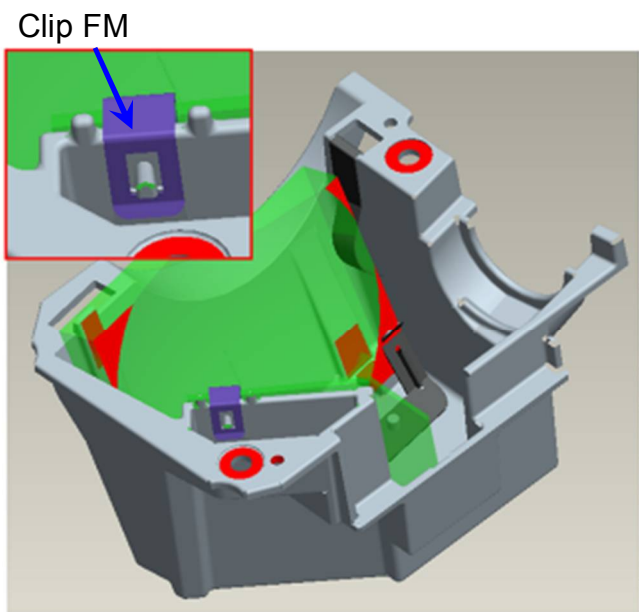

Fig. 2-9
- VI. Hook "Clip FM" on SUB HSG to fix FM. (Fig. 2-9)